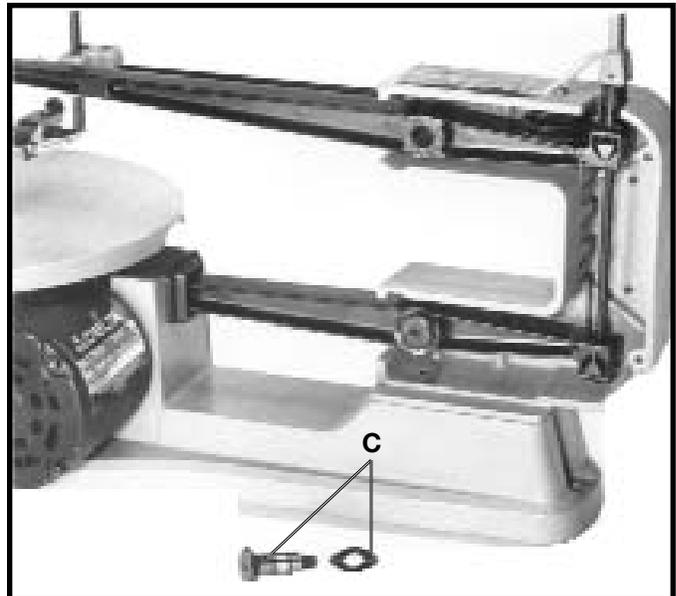

Fig. 28
5. Fig. 28 illustrates one of the pivot bolts and wavy washers (C) removed. Thoroughly clean grease from shafts of both pivot bolts and lubricate shafts with a few drops of light machine oil.